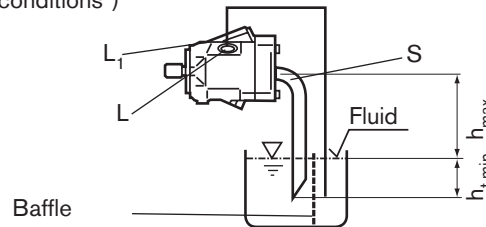

Fig. 4
b) If the min. fluid level is below the top of the pump: pipe "L" and "S" acc. to fig. 4, "L₁" plugged (see also limit of conditions).
a) Mounting above the tank: see fig. 4. (see also "Limit of conditions")